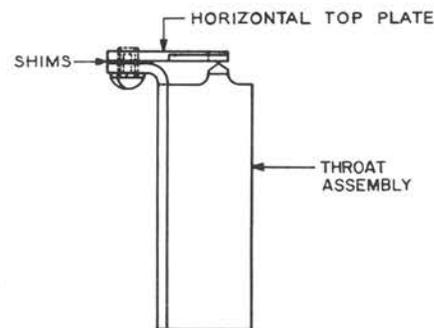

Fig. 49—Gate Gap
- (1) Remove the horizontal top plate using the 3-inch C screwdriver.
- (2) Remove or add shims as required.
- (3) Remount the horizontal top plate, and securely tighten the plate mounting screw.
- (4) Remount the throat assembly in reverse order of removal.
- (5) Swing the throat into place against the casting.
- (6) Securely tighten the screw.
**Note:** Failure to meet the requirement is due to excessive or insufficient shim thickness (Fig. 49) between the horizontal top plate and horizontal top plate mounting surface. Two types of shims are provided: The P-485091 shim (0.001 inch thick) and P-484435 shim (made up of 0.002-inch laminations), arranged so that laminations may be removed as required.